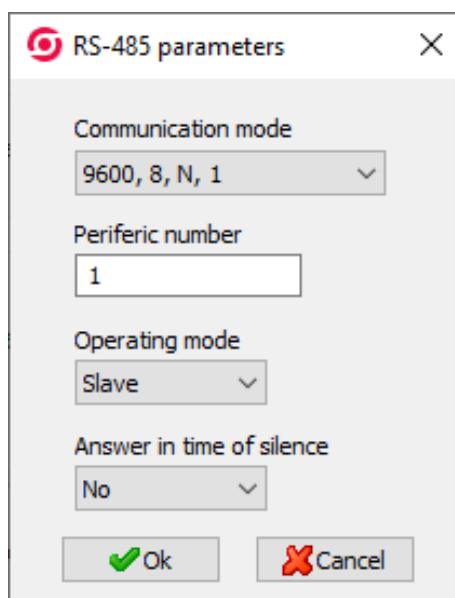

Figure 8: Configuration software: RS-485 parameters.
5.- Press the  Modify button to change the **RS-485** communication parameters. The window shown in Figure 8 will be displayed.